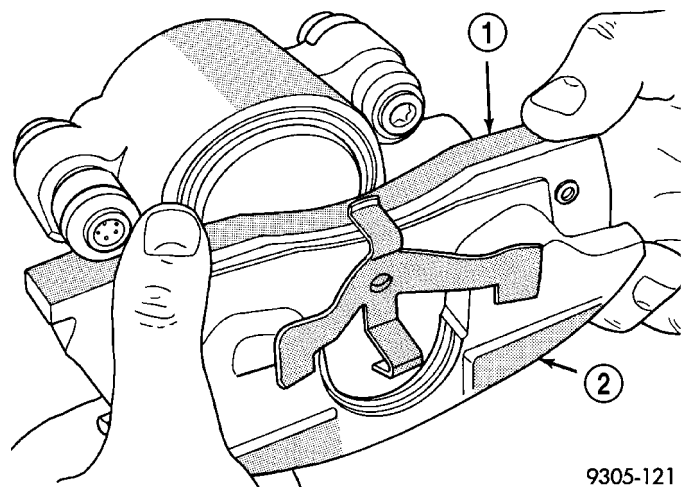

Fig. 17 Installing Outboard Brake Shoe Assembly
(5) Slide the new outboard brake shoe assembly onto the caliper assembly (Fig. 17).
(6) Install one rail shim on each machined abutment where it will contact the brake shoes. Make